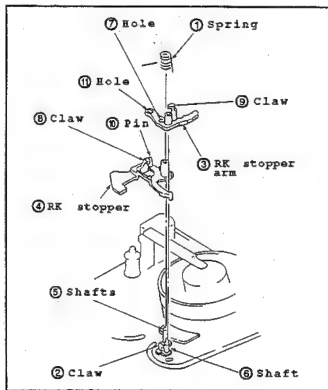

Fig.II-13
• Disassembling (Fig.II-13)
- (1) Remove the screw ①.
- (2) To take off the RK stopper arm ③, unhook the claw ② of chassis.
- (3) Take off the RK stopper ④.
• Reassembling (Fig.II-13)
- (1) Assemble the RK stopper ④ onto the shaft ⑤.
- (2) Assemble RK stopper arm ③ onto the shaft ⑤ while inserting the pin ⑩ to the hole ⑪. Then, secure it by hooking the claw ② to the hole ⑦.
- (3) Install the spring ① to the shaft ⑤. Then, hook it to the claws ⑧ and ⑨, respectively.